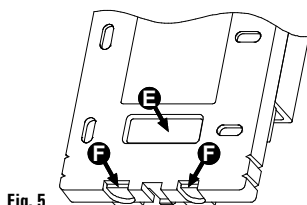

Fig. 5
**Back cable entry:** Open the hole **E** Fig. 5, with a screwdriver.
**Bottom cable entry:** Open one or both holes **F** Fig. 5, with a screwdriver.